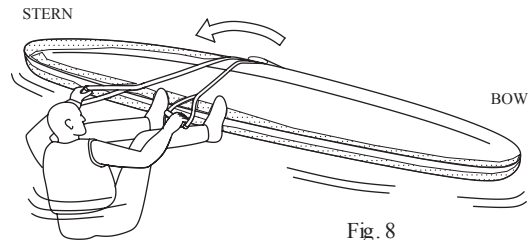

Fig. 8
- Pull the “HANDLE” until the “HANDLE” and the “STEP” lengths are approximately the same. While holding the “STEP” in one hand and the “HANDLE” in the other, place both feet on the vessel and pull the boat toward you. Stay clear of the vessel as it is being righted to avoid injury. (See FIG 8)